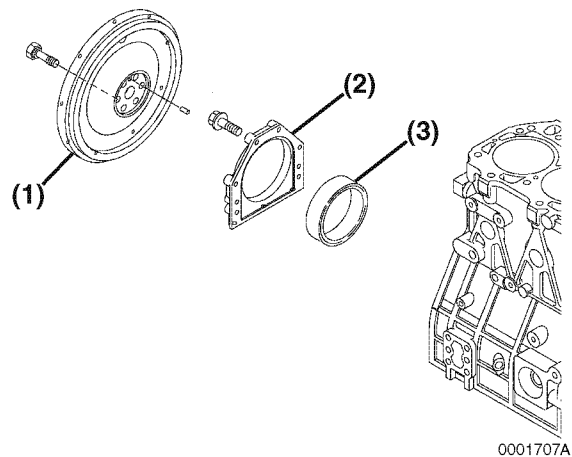

Figure 6-112
3. Remove the rear oil seal (Figure 6-112, (3)) from the seal housing (Figure 6-112, (2)).
4. Apply a continuous bead of ThreeBond Liquid Gasket No. 1212, Yanmar Part No. 977770-01212 to the outside diameter of a new oil seal (Figure 6-112, (2)), and install in the housing. Apply lithium grease to the lip of the seal.